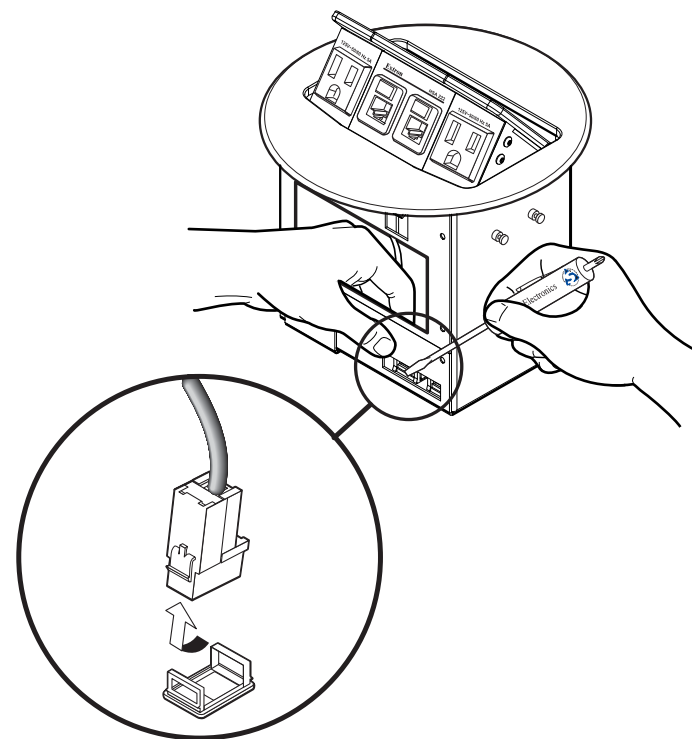

Figure 3-2 — Releasing the bezel plug-in detent (HSA 222 models)
- a. With a Tweezer in one hand, reach through the small access hole in the front of the enclosure (figure 3-2) and gently pry outward on the front of the RJ-45 connector detent on the bezel plug-in,